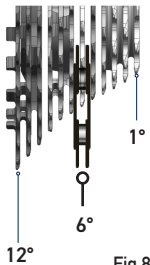

Fig.8
- 1) Position the rear derailleur on the 6th sprocket (the 1st is the smallest sprocket) (Fig.8).